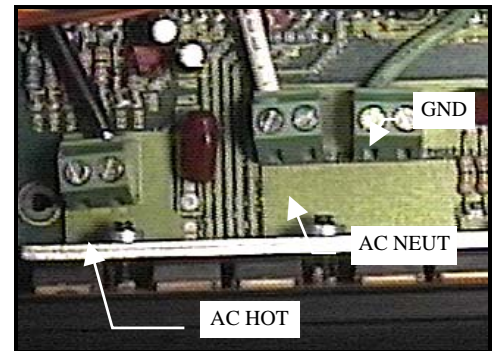

Figure 9A. AC Output Terminal Block
- d) Connect the ground lead of your AC cable to the internal ground lug on the rear panel of the PROwatt 1500. Strip the hot and neutral leads of your AC cable 1/4 inch (6mm) and connect to the AC output terminal blocks on the PROwatt 1500 circuit board (labeled "AC NEUT" and "AC HOT", in Figure 9A). Check carefully that you have maintained correct polarity (see below) and that there are no loose strands of wire. Make certain that the ground lead, which may be a bare wire, is cut as short as possible and is not touching any component within the PROwatt.
The AC output of the PROwatt 1500 has hot, neutral, and ground conductors. Figure 9A shows the internal terminals for the hot, neutral, and ground conductors. When connecting to the AC wiring, connect the hot (black) wire to the hot terminal and the neutral (white) to the neutral terminal. Connect the ground wire to the internal ground lug in the PROwatt. Connect the other end of the ground wire to a grounding point on a junction box or breaker panel.